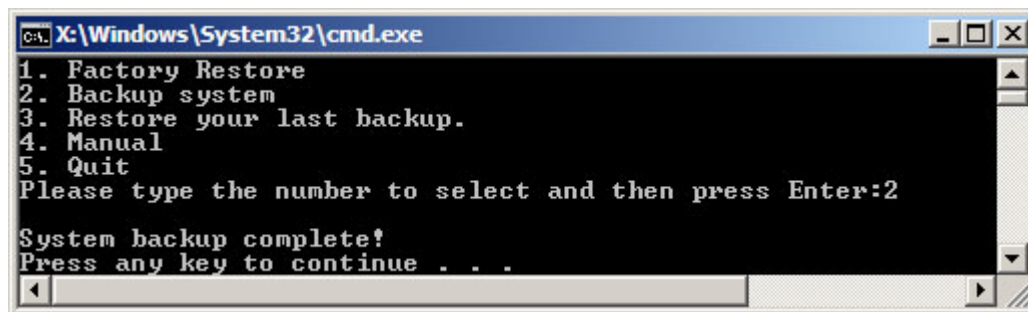

Figure C-30: System Backup Complete Window
Step 3: The screen is shown as in **Figure C-30** when system backup is completed.